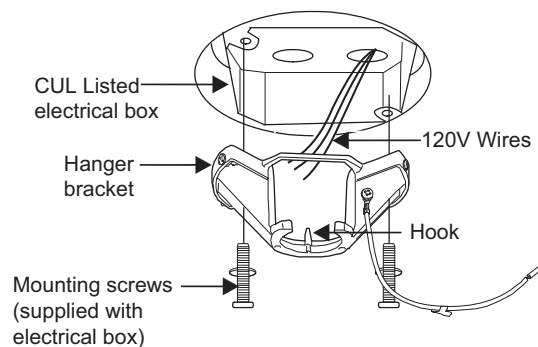

Figure 5
Step 1. Pass the 120-volt supply wires through the center hole in the ceiling hanger bracket as shown in Fig. 5.
Step 2. Secure the hanger bracket to the ceiling outlet box with the screws and washers provided with your outlet box. (Fig. 5)